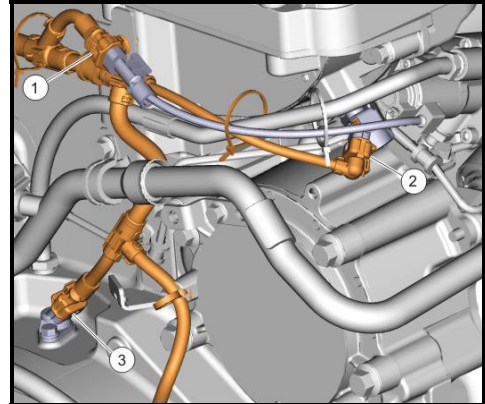

FIGURE 24
17. Put the rear section of the engine harness in place. Connect the following rear engine harness connections (fig. 24). Start to attach P-clamps.